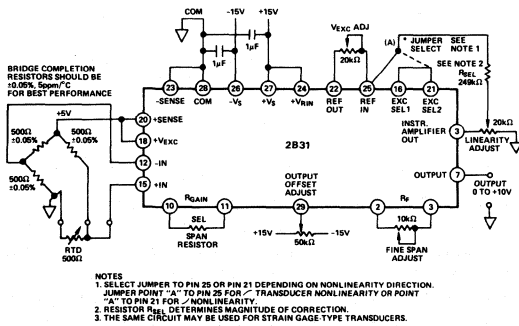

Figure 9. Transducer Nonlinearity Correction
**Linearizing Transducer Output:** To maximize overall system linearity and accuracy, some strain gage-type and RTD transducer analog outputs may require linearization. A simple circuit may be used with the 2B31 to correct for the curvature in the input signal as shown in Figure 9. The addition of feedback in the excitation stage will allow for the correction of